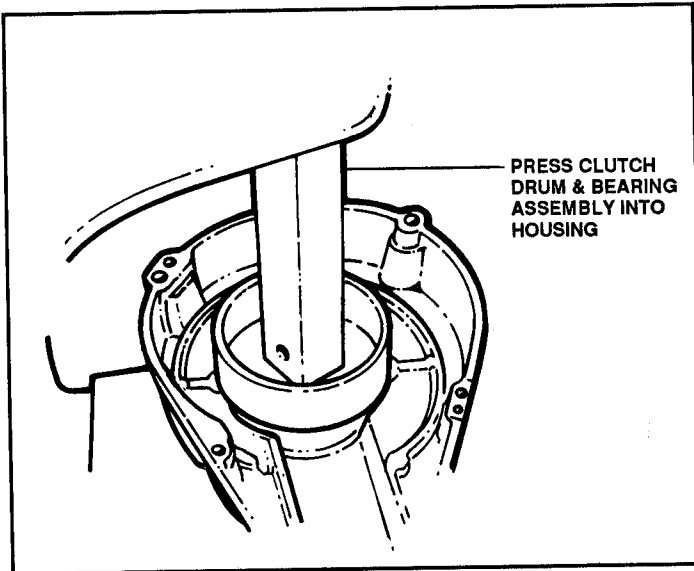

FIGURE 5
- Reinstall clutch drum assembly by first reinserting washer into fan housing, rounded portion of washer facing in. Lightly coat the housing where the bearing will be inserted with clean 30 - weight oil. Pressing on the center of the drum, press the assembly in until it seats. Be certain that assembly is not uneven when applying press force. See Figure 5.